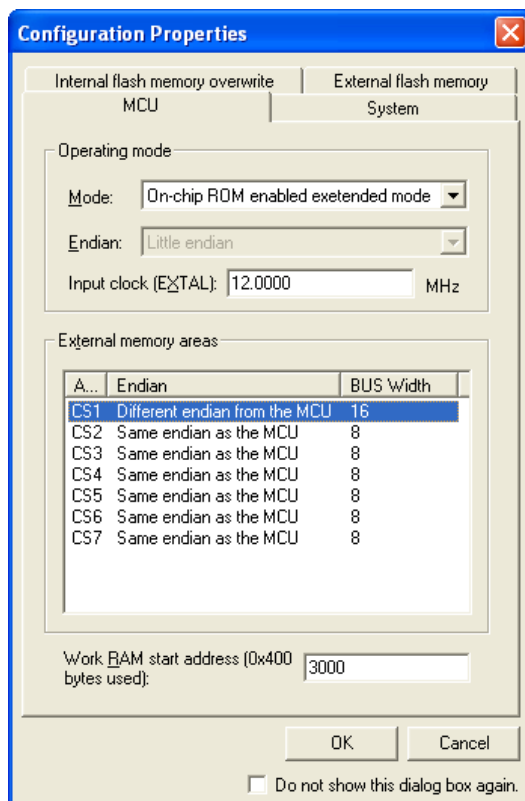

Figure 3.2 - Configuring External Buses
2. From the debugger “Configuration Properties” window, set the Operating Mode to “On-chip ROM enabled extended mode” (see Figure 3.2 - Configuring External Buses).